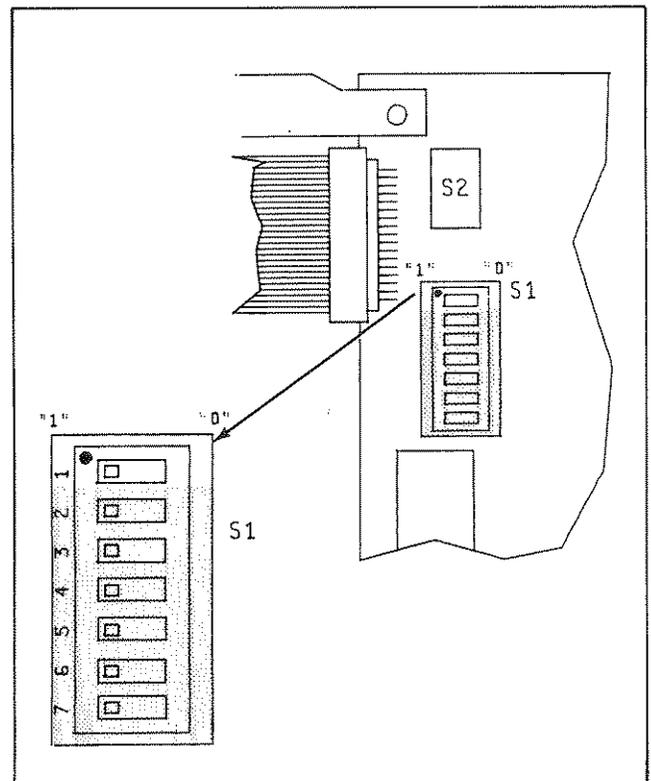

Figure 8-A2-3. Switch Setting for Test #2
- Refer to Figure 8-A2-3 and move switch segment 1 of switch S1 to the "1" (left) position.